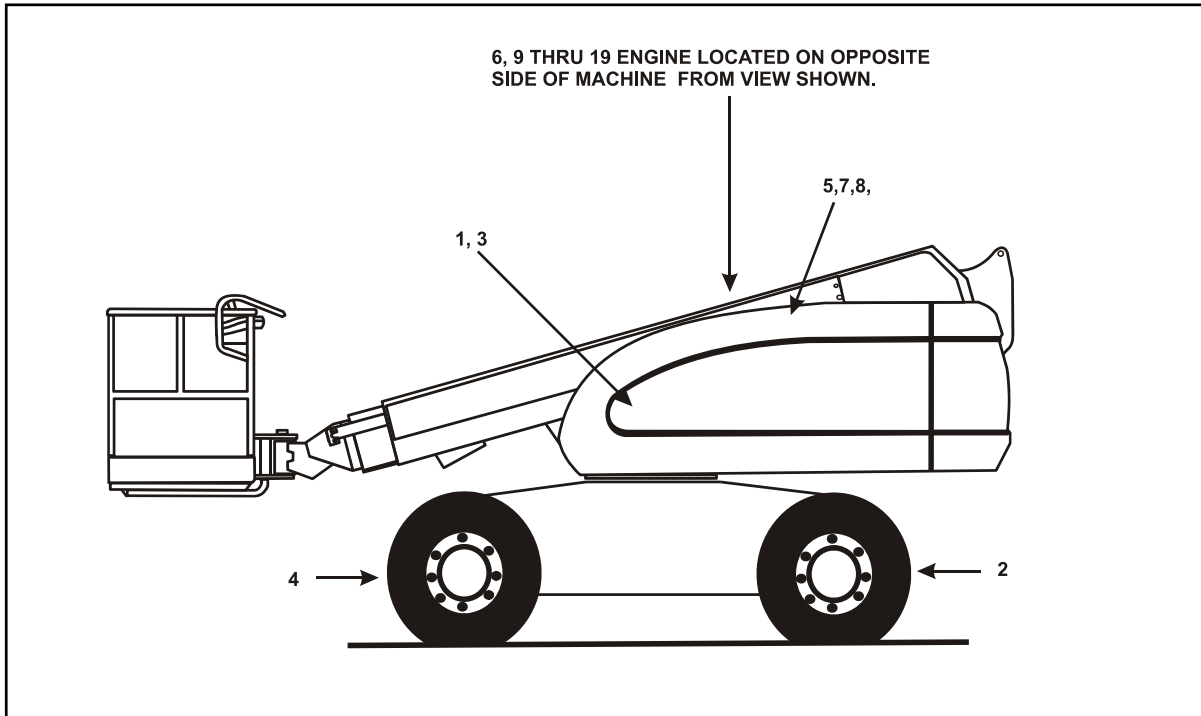

Figure 1-1. Lubrication and Operator Maintenance Point Location
**NOTE:** The following numbers correspond to those in Figure 1-1., Lubrication and Operator Maintenance Point Location.